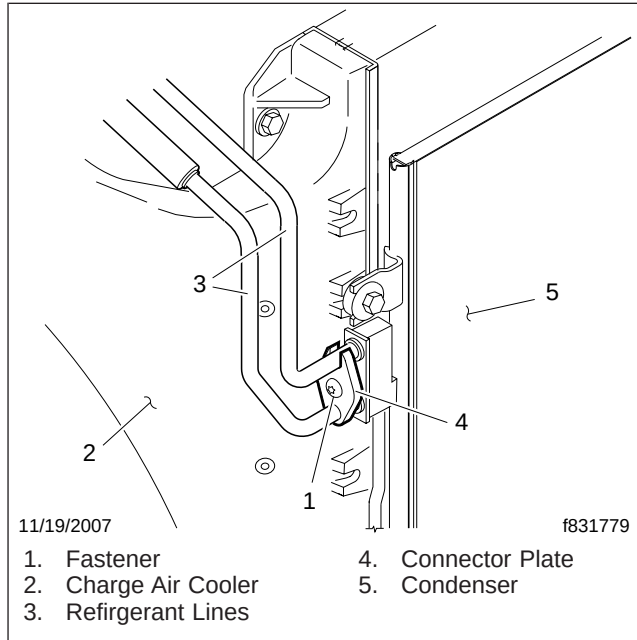

Fig. 1, Condenser Connection
4. Disconnect the refrigerant lines from the condenser and remove and discard the seals. Quickly cap the condenser inlet and outlet ports, if the condenser will be reinstalled, and plug the fittings. See Fig. 1.